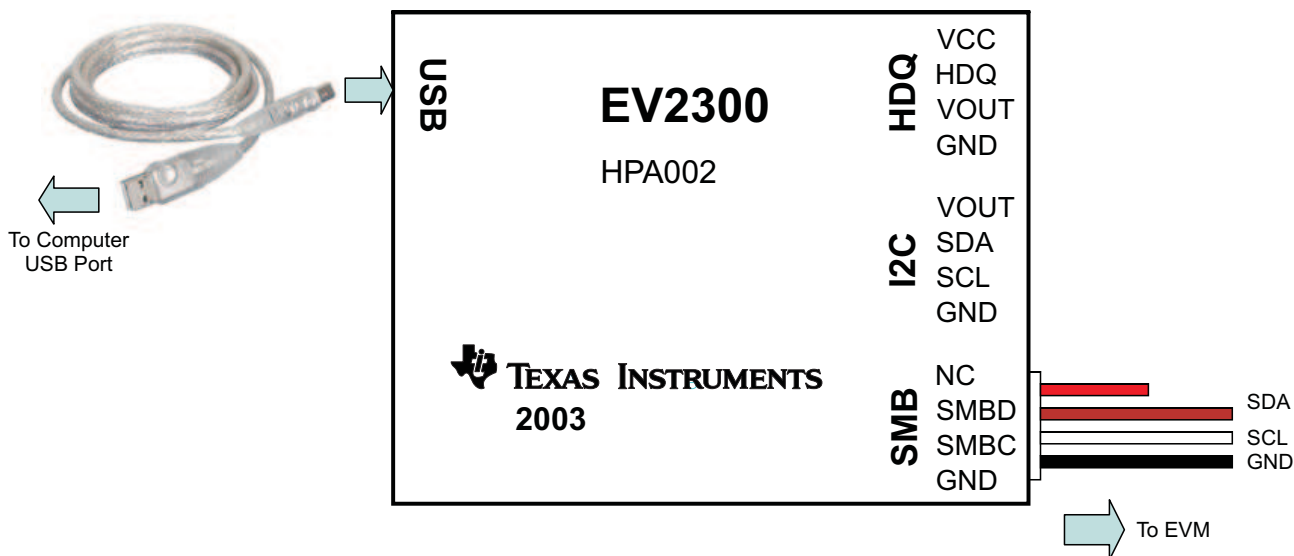

Figure 1. EV2300 Kit Connections
10. Connect J2 (SDA, SCL) and J3 (GND) to the EV2300 kit *SMB* port. Connect the USB port of the EV2300 kit to the USB port of the computer. The connections are shown in Figure 1